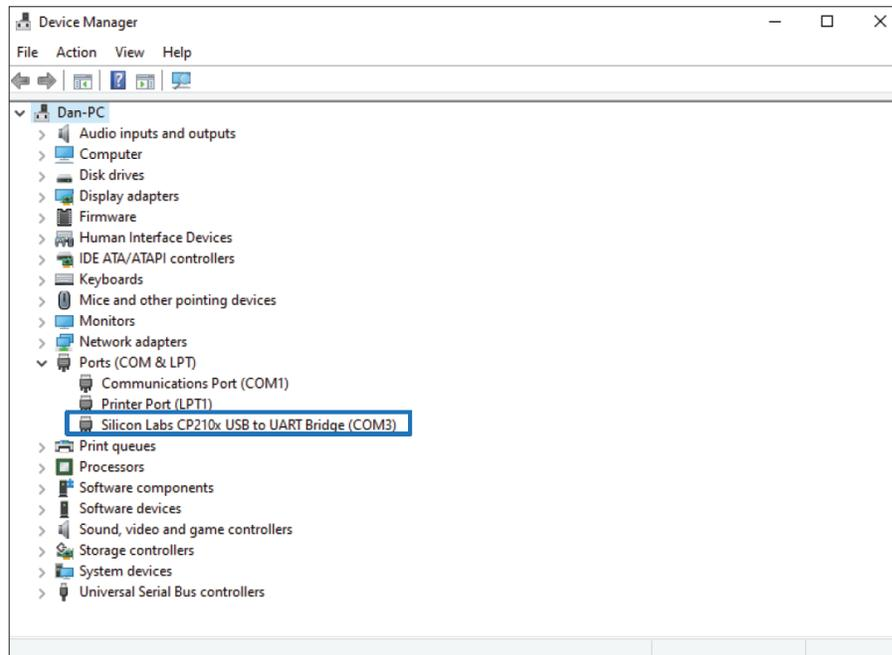

Figure 14
3. Expand the Ports tab by clicking on the “>” or “+” located to the left. Look for “Silicon labs CP210X USB to UART Bridge (COM #)”. (Figure 14)